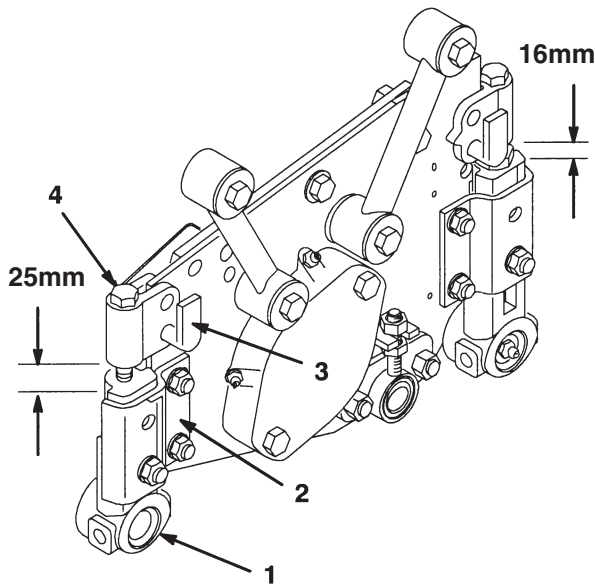

Figure 6
2. Adjust the support cap screw to achieve $25\text{mm} \pm 1.5\text{mm}$ dimension between the height-of-cut support and the front roller bracket (2 places) (Fig. 6).
3. Adjust the support cap screw to achieve $16\text{mm} \pm 1.5\text{mm}$ dimension between the height-of-cut support and the rear roller bracket (2 places) (Fig. 6).